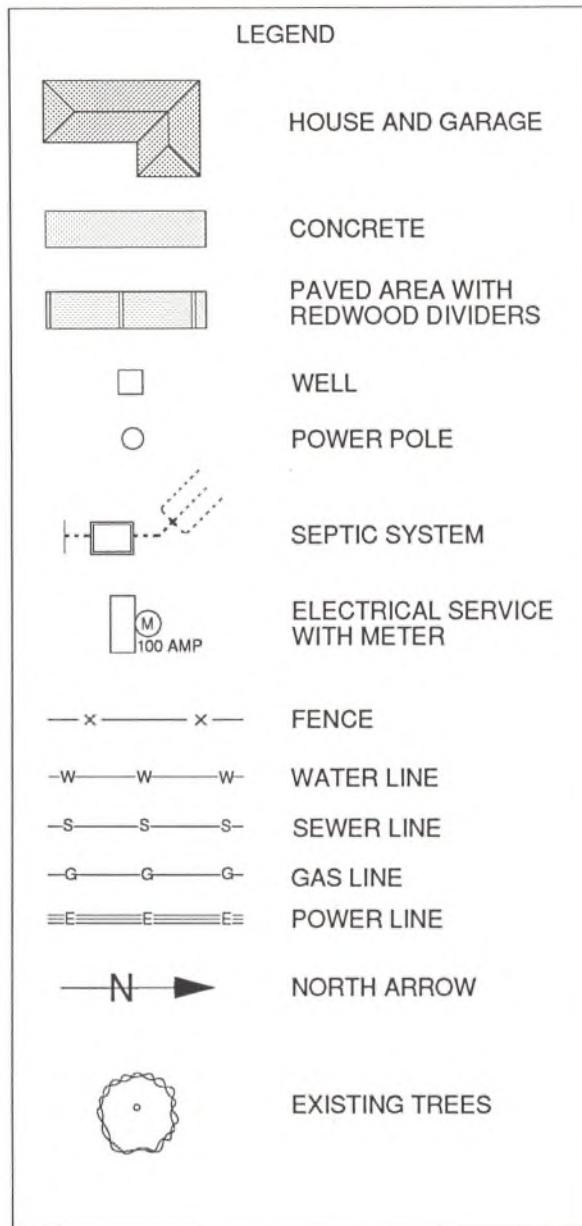

Fig. 26.4 Symbols for use in plot-plan drawing.
3. Note any other existing features or buildings on the lot and their locations. (See Fig. 26.4 for correct symbols.)